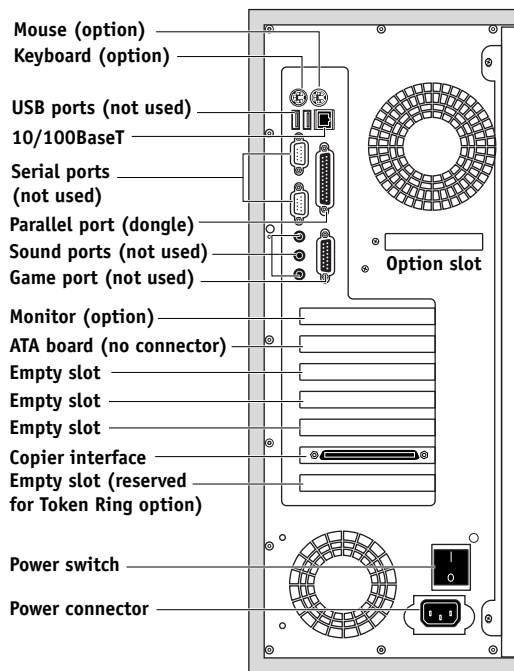

FIGURE 5-3 Back panel of E-810
- All interface cables to the system are plugged into the proper connectors on the back panel of the E-810 (see Figure 5-3).